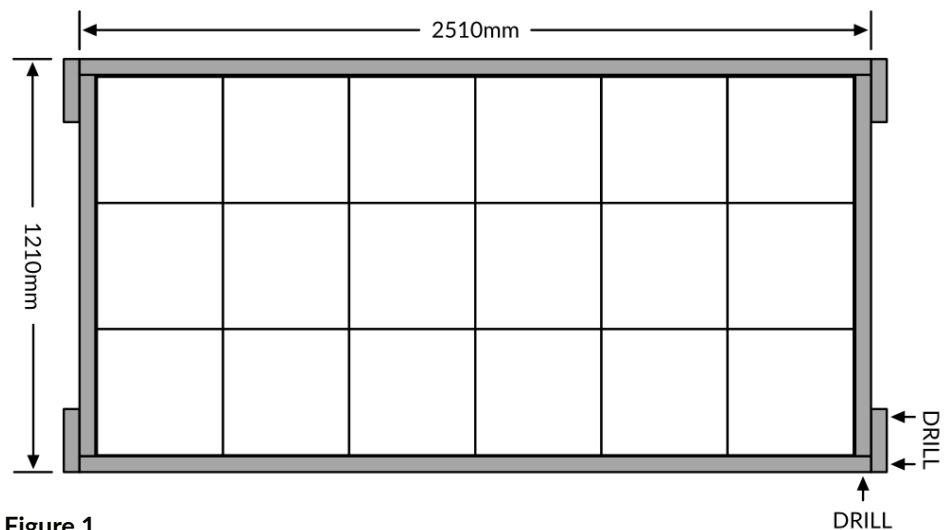

Figure 1.
Figure 1 shows the location of the supports/caps on the (long) sides of our 2400mm x 1200mm (internal dimensions) bed.
1. On the 200mm side of each of the 4 x 2510mm sleepers, drill 2 x holes centred (ie. 25mm in from the top and the bottom) and 50mm in from the end. Drill these all the way through. Refer to Figure 1 and the photo above.